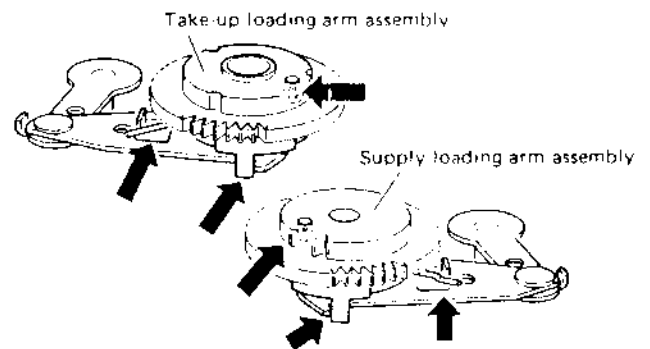

Fig. 1-3-1 Loading arm assembly (1)
1. Set up the loading arm assembly correctly as shown in Fig. 1-3-1.